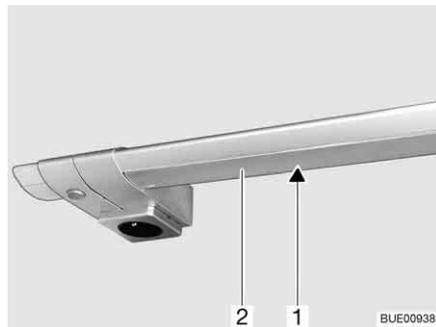

Fig. 226 Cooker lamp
- Squeeze cover (Fig. 226,2) lightly with both hands and pull downwards. Always start pulling at the very left or right end.
- Remove halogen bulb (Fig. 226,1).